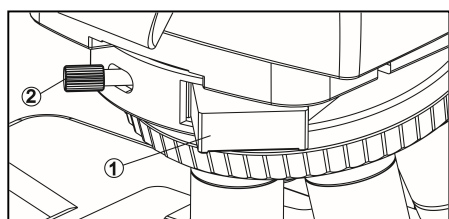

Figure 14
3-12 Use of extended function board (Figure 14)
As shown in Figure 14, a slot for the expansion function board is reserved on the converter. The microscope has been inserted into the slot with a common bright and dark field board when it leaves the factory. If you want to use other extended function boards, just unscrew the serial number ②, pull out the standard bright and dark field board, then insert the extended function board into the slot and tighten the screws of serial number ②.